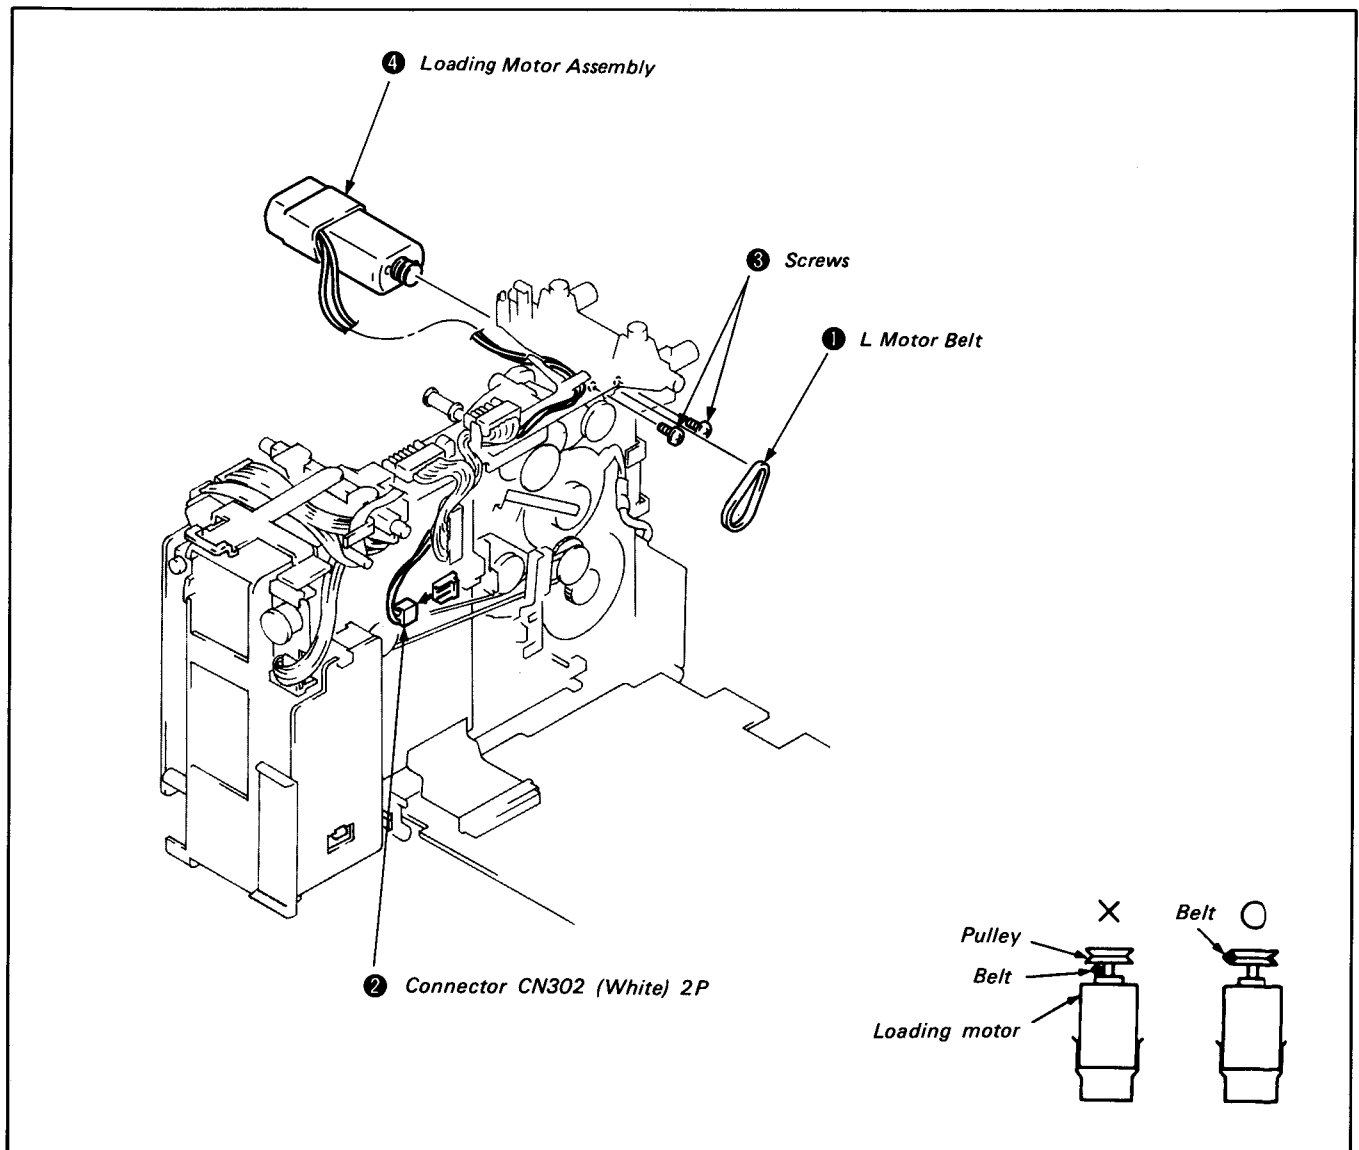

Fig. 8-12.
- 2) Remove the L motor belt ①.
- 3) Disconnect the connector ② CN302 (white) 2P from the RS-18 Board.
- 4) Remove the two screws ③ and loading motor assembly ④. (See Fig. 8-12.)
- 1) Remount the loading motor assembly ④ and tighten the two screws ③.
- 2) Reconnect the connector ② CN302 (white) 2P to the RS-18 board.
- 3) Remount the L motor belt ①. (See Fig. 8-12.)